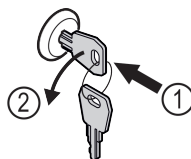

Fig. 181
- ▶ Insert the key. Fig. 181 (1)
- ▶ Turn the key anticlockwise by 90°. Fig. 181 (2)